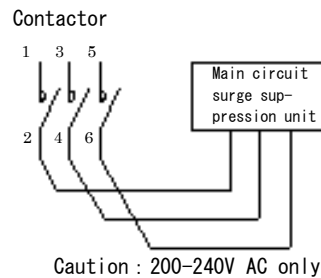

Fig. 3
3.3 Connection of Lead Wire (*3 and *6). (Fig. 3)